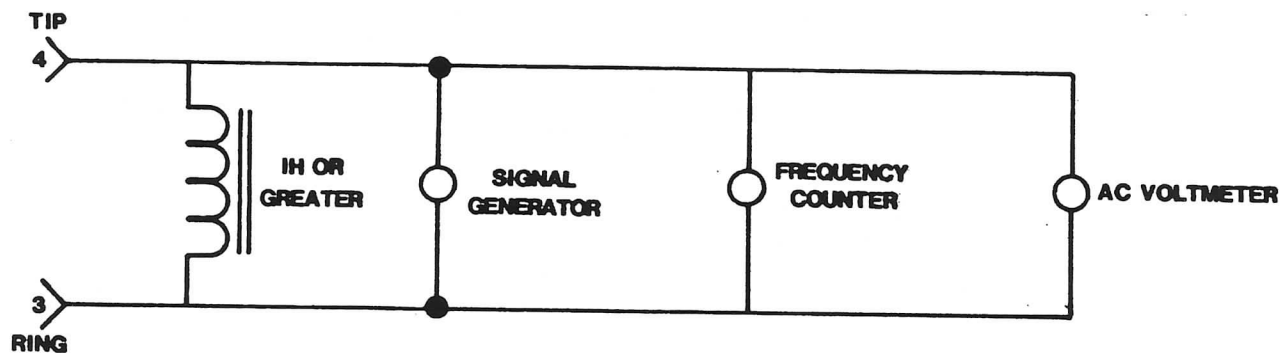

Figure 6. Connections on the Tip and Ring Loop.
5.8.1 Connect the dc milliammeter to Pins 3 and 4 of the TELEPHONE input socket via a modular plug adapter. See Figure 6.
5.9.1 Connect a 1 henry inductor, signal generator, frequency counter, and ac voltmeter to the tip and ring loop (Pins 3 and 4 of the TELEPHONE input socket) via a modular jack adapter. See Figure 6.